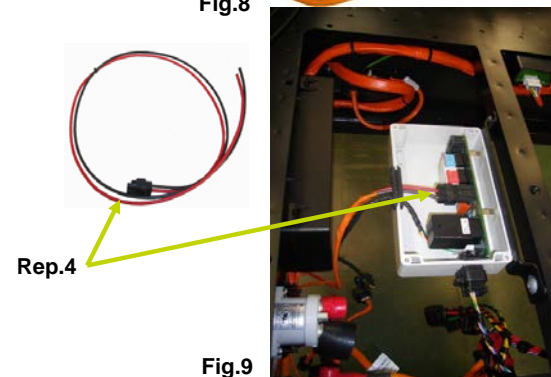

Fig.9
- Connect the connector **(Rep 4)(Fig.9)** to the BRCAN electrical base plate (P3 connection slot).